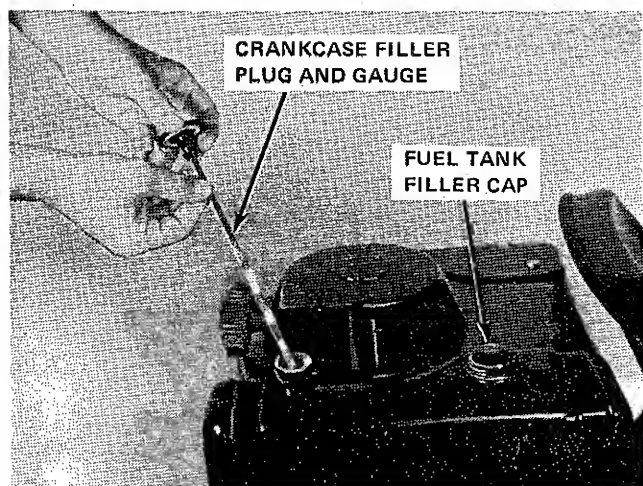

Figure 3-4. Oil and Fuel Fill Locations
D. Remove the engine crankcase filler cap and gauge (Figure 3-4). Fill the crankcase with 10W-30 grade SD/CC, MS, MS/DG, or MS/DM oil until level reads full on gauge. Crankcase capacity is 2-1/4 pints. Check oil level